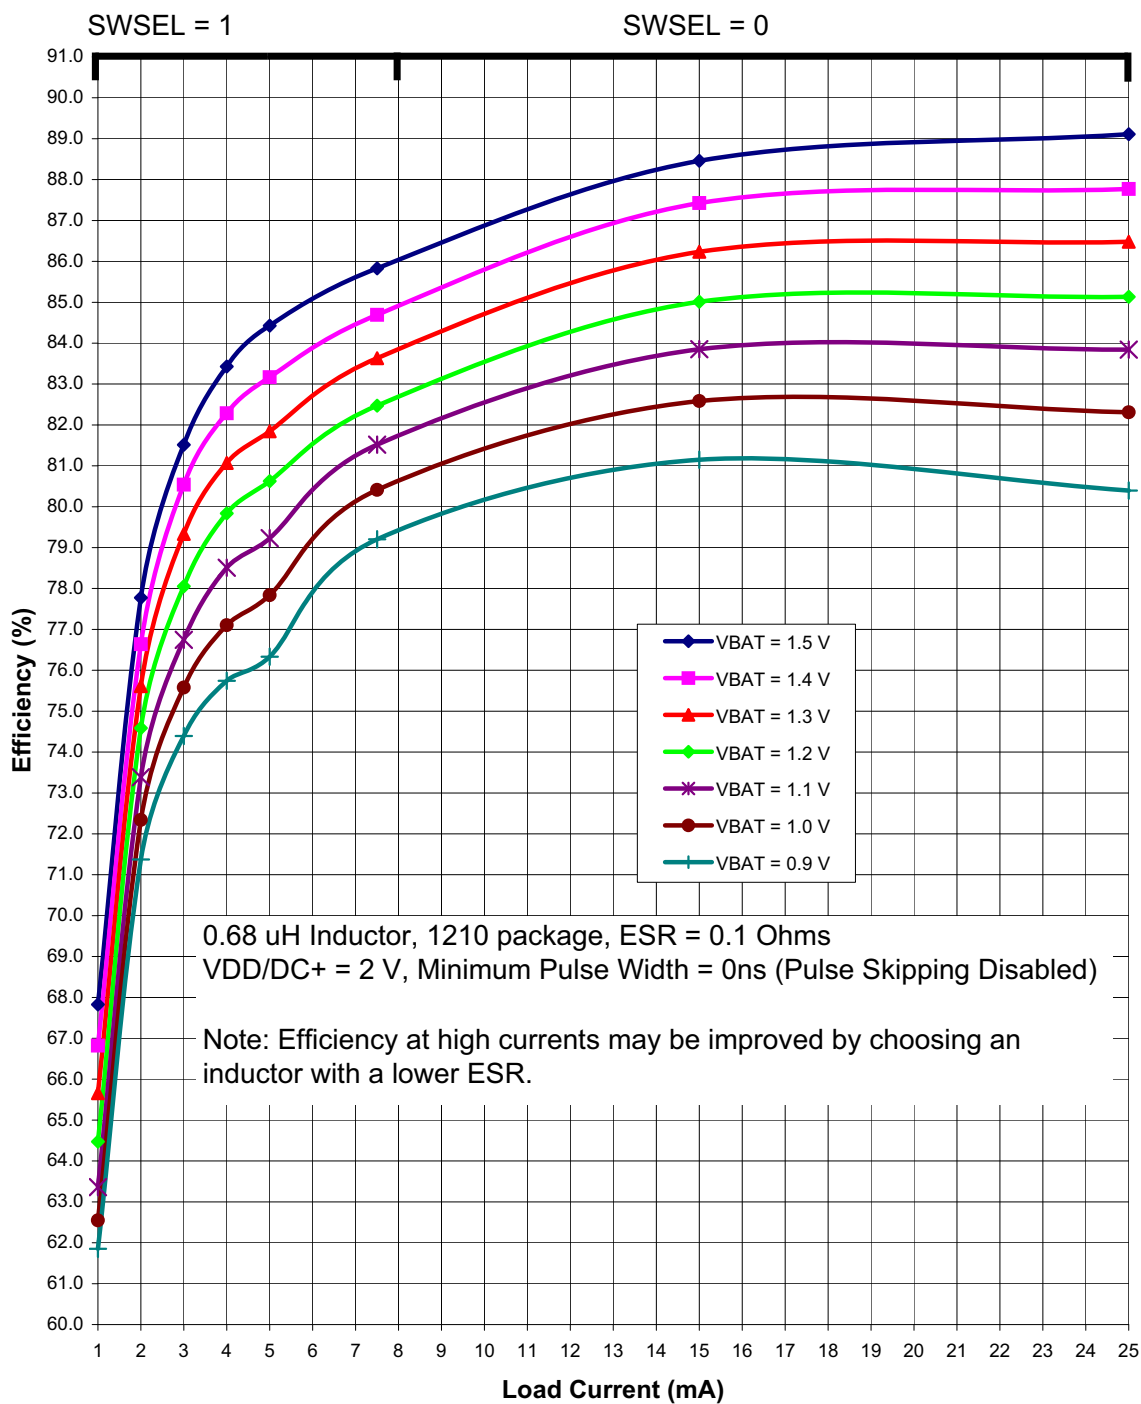
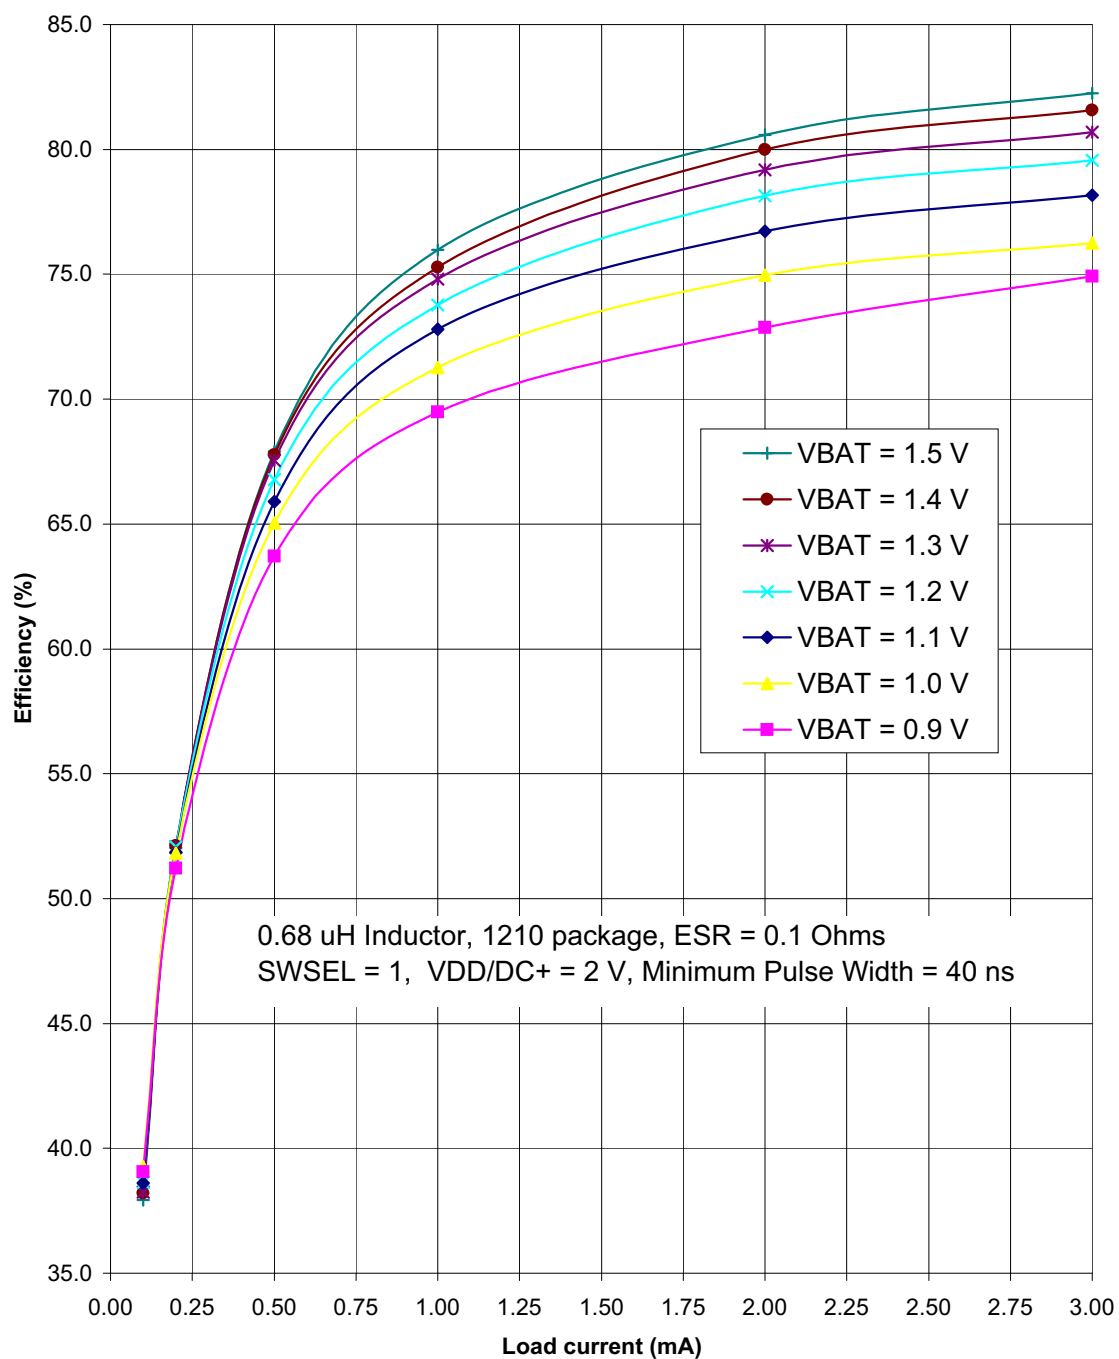

Figure 4.3. Typical DC-DC Converter Efficiency (High Current, VDD/DC+ = 2 V)
Figure 4.5. Typical DC-DC Converter Efficiency (Low Current, VDD/DC+ = 2 V)
Notes: <ol style="list-style-type: none"> Based on device characterization data; Not production tested. SYSCLK must be at least 32 kHz to enable debugging. Digital Supply Current depends upon the particular code being executed. The values in this table are obtained with the CPU executing an "sjmp \$" loop, which is the compiled form of a while(1) loop in C. One iteration requires 3 CPU clock cycles, and the flash memory is read on each cycle. The supply current will vary slightly based on the physical location of the sjmp instruction and the number of flash address lines that toggle as a result. In the worst case, current can increase by up to 30% if the sjmp loop straddles a 128-byte flash address boundary (e.g., 0x007F to 0x0080). Real-world code with larger loops and longer linear sequences will have few transitions across the 128-byte address boundaries. Includes oscillator and regulator supply current. IDD can be estimated for frequencies ≤10 MHz by simply multiplying the frequency of interest by the frequency sensitivity number for that range, then adding an offset of 90 µA. When using these numbers to estimate IDD for >10 MHz, the estimate should be the current at 25 MHz minus the difference in current indicated by the frequency sensitivity number. For example: VDD = 3.0 V; F = 20 MHz, IDD = 4.1 mA – (25 MHz – 20 MHz) x 0.120 mA/MHz = 3.5 mA. The Supply Voltage is the voltage at the VDD_MCU pin, typically 1.8 to 3.6 V (default = 1.9 V). Idle IDD can be estimated by taking the current at 25 MHz minus the difference in current indicated by the frequency sensitivity number. For example: VDD = 3.0 V; F = 5 MHz, Idle IDD = 2.5 mA – (25 MHz – 5 MHz) x 0.095 mA/MHz = 0.6 mA. The supply current specifications in Table 4.2 are for two cell mode. The VBAT current in one-cell mode can be estimated using the following equation: $\text{VBAT Current (one-cell mode)} = \frac{\text{Supply Voltage} \times \text{Supply Current (two-cell mode)}}{\text{DC-DC Converter Efficiency} \times \text{VBAT Voltage}}$ <p>The VBAT Voltage is the voltage at the VBAT pin, typically 0.9 to 1.8 V. The Supply Current (two-cell mode) is the data sheet specification for supply current. The Supply Voltage is the voltage at the VDD/DC+ pin, typically 1.8 to 3.3 V (default = 1.9 V). The DC-DC Converter Efficiency can be estimated using Figure 4.3–Figure 4.5.</p> The radio peripheral is placed in Shutdown mode.